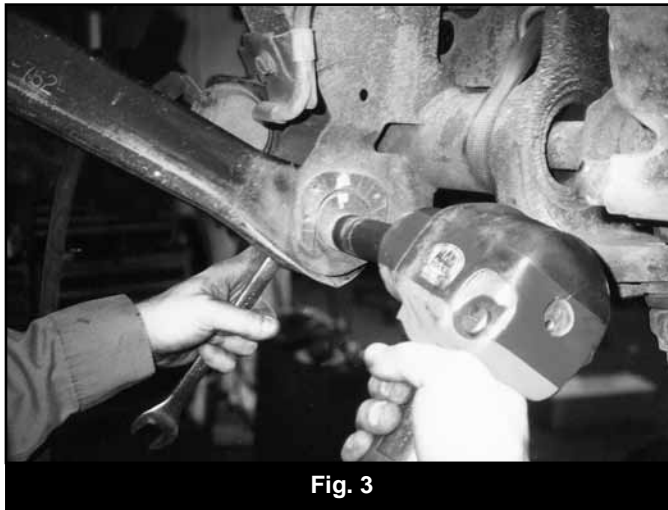

Fig. 3
11. Remove the upper and lower links from both sides. (Fig. 3)